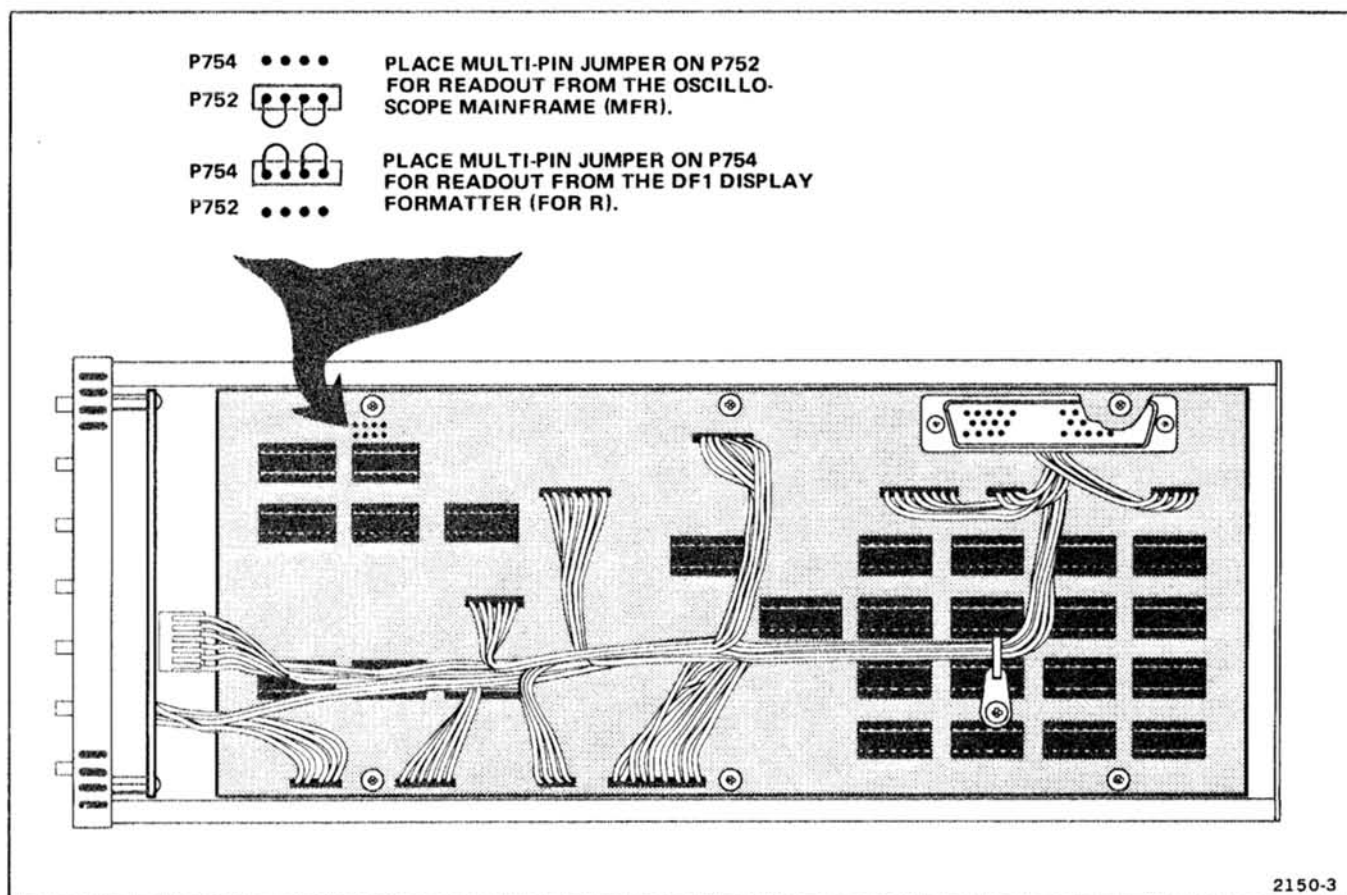

Figure 4-3. Location of readout source multi-pin jumper.
a. Connect the DF1 Readout Source multi-pin jumper (internal) to display the formatter readout (FOR R). Refer to Figure 4-3. Assure that the System Test Fixture ABA indicator light is on. Turn off the oscilloscope power momentarily. This action will load WOM RAM with random data for future display. Disregard the actual data that is displayed in the following checks. It's only purpose is to provide a method to check the mode of operation.
g. Connect the DF1 Readout Source multi-pin jumper (internal) to display mainframe readout (MFR). Refer to Figure 4-3.
a. Connect the DF1 Readout Source multi-pin jumper (internal) to display the mainframe readout (MFR). Refer to Figure 4-3.
b. Set the System Test Fixture ADDRESS switches to 0098, and DATA switch number 0 to HI (1).
d. Set the System Test Fixture ADDRESS switches to 00A8. Set DATA switches: number 3 to HI (1), number 1 to HI (1), and number 0 to LO (0).
- a. Connect the DF1 Readout Source multi-pin jumper (internal) to display the mainframe readout (MFR). Refer to Figure 4-3.
- b. Set the System Test Fixture ADDRESS switches to 0098, and DATA switch number 0 to HI (1).
- d. Set the System Test Fixture ADDRESS switches to 00A8. Set the DATA switches: number 3 to HI (1), number 1 to HI (1), and number 0 to LO (0).